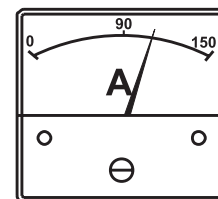

Figure 53. Ammeter (Load)
- Observe the generator's ammeter (Figure 53) and verify it reads the anticipated amount of current with respect to the load. The ammeter will only display a current reading if a load is in use.